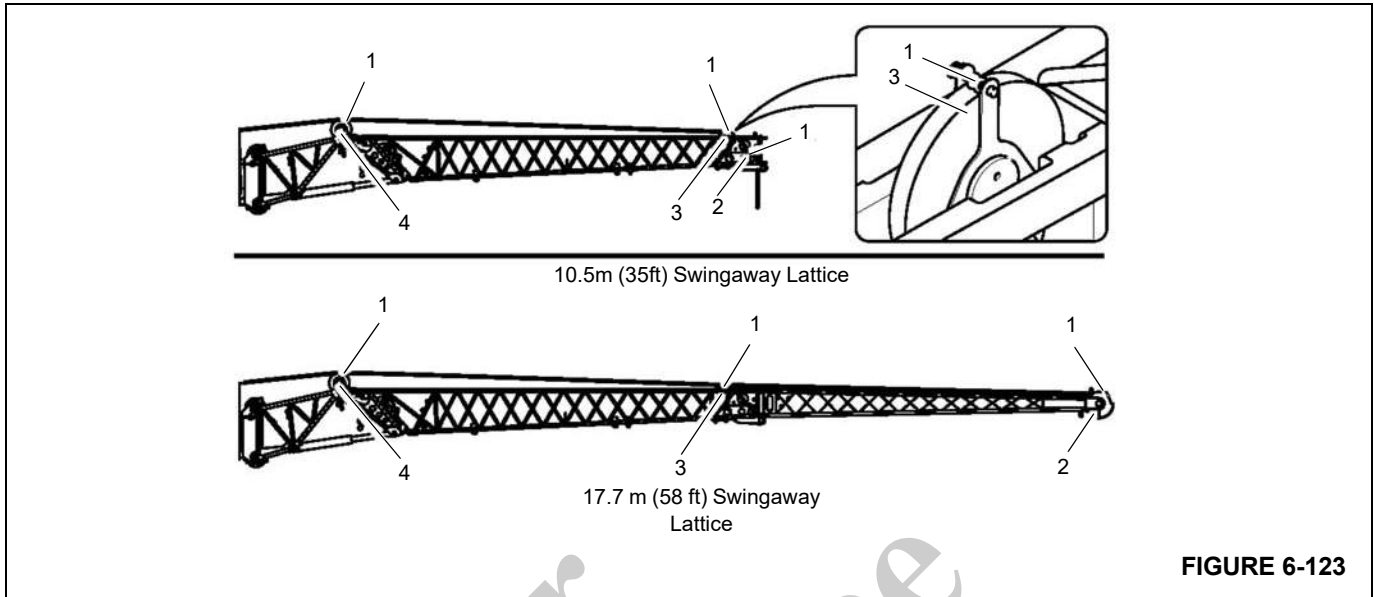

FIGURE 6-123
1. Remove the retaining sheaves (1), (Figure 6-123).
2. Guide the rope over the deflection sheaves (4), (Figure 6-123) and (3), (Figure 6-123) and over the nose sheave (2), (Figure 6-123) of the extension.
3. Reinstall all the retaining sheaves (1), (Figure 6-123) and secure with retaining clips.
2. Remove the retaining sheaves (1), (Figure 6-123).
3. Take the wire rope off the head sheave (2), (Figure 6-123) and deflection sheaves (4), (Figure 6-123) and (3), (Figure 6-123) and place it on the ground on the left side.